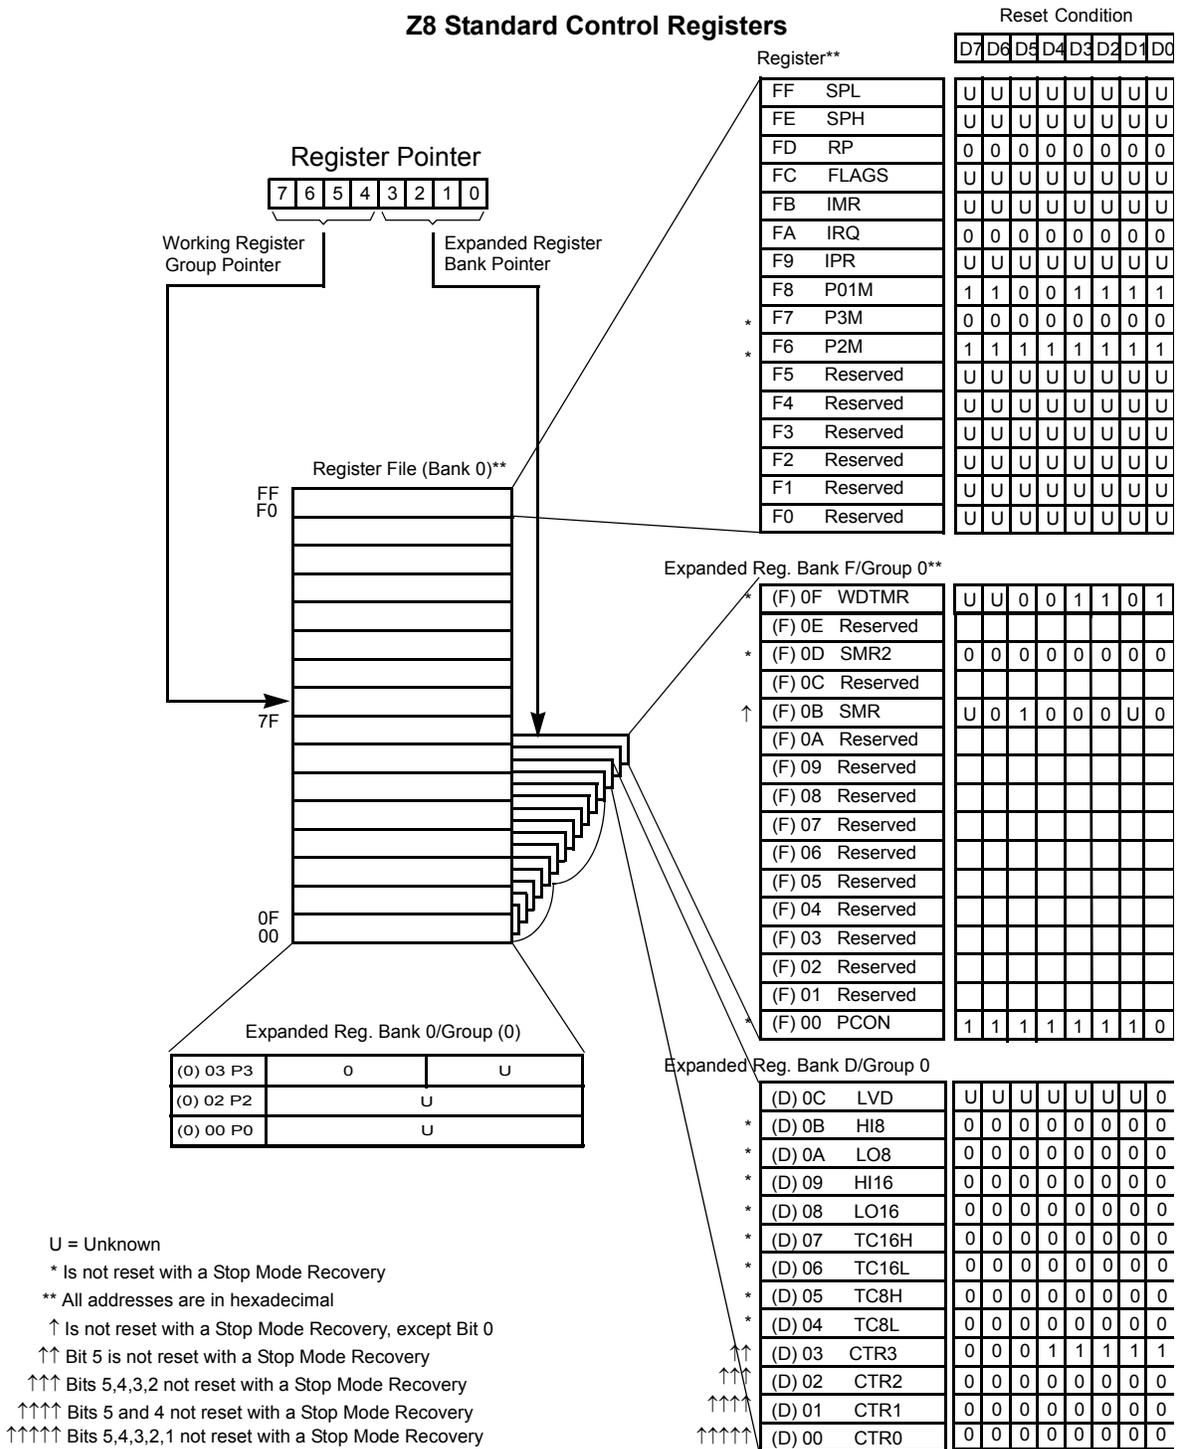

Figure 10. Expanded Register File Architecture
- **Note:** *An expanded register bank is also referred to as an expanded register group (see Figure 10).*
Example: (See Figure 10 on page 18)